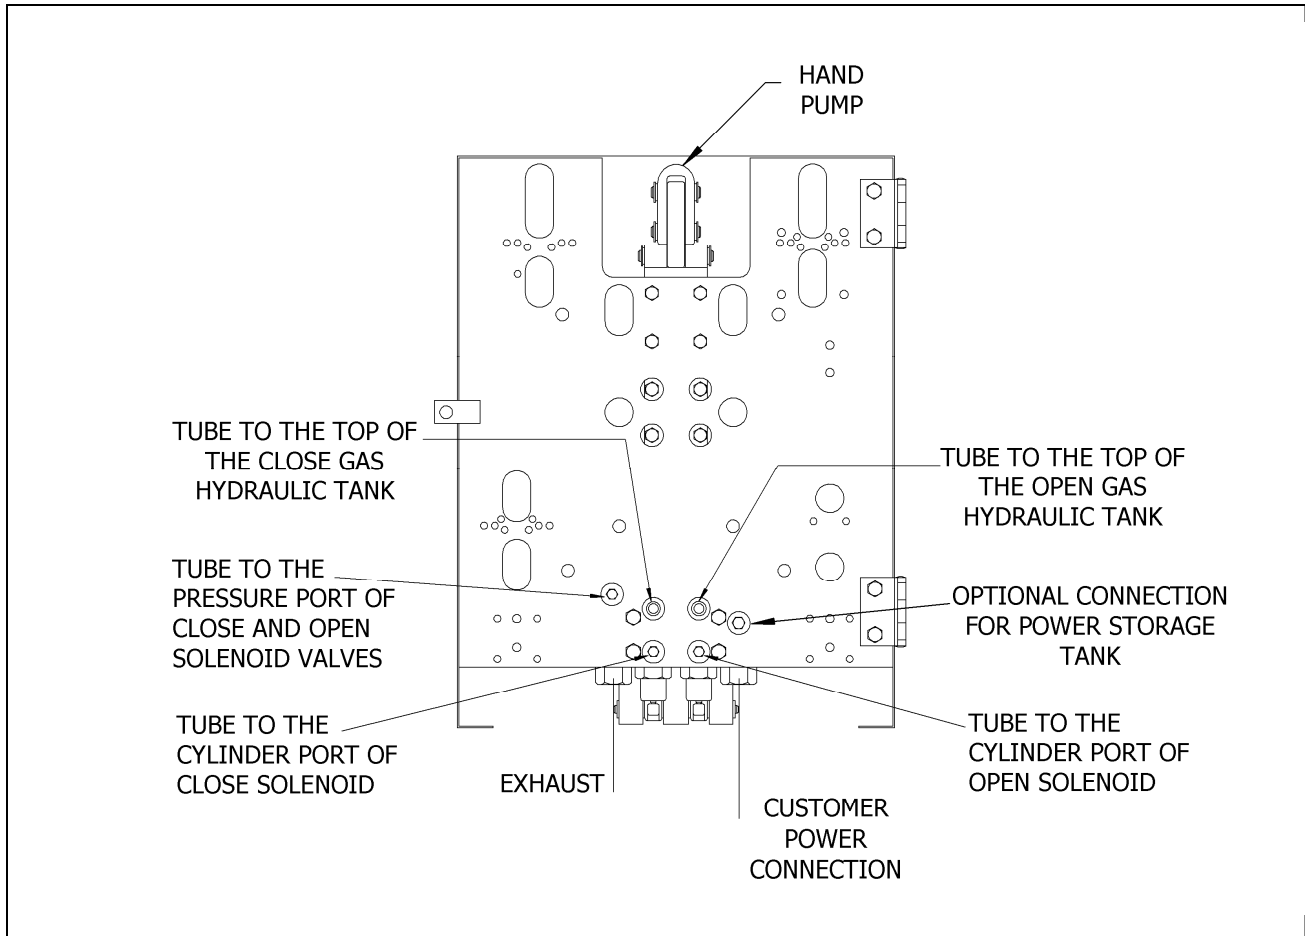
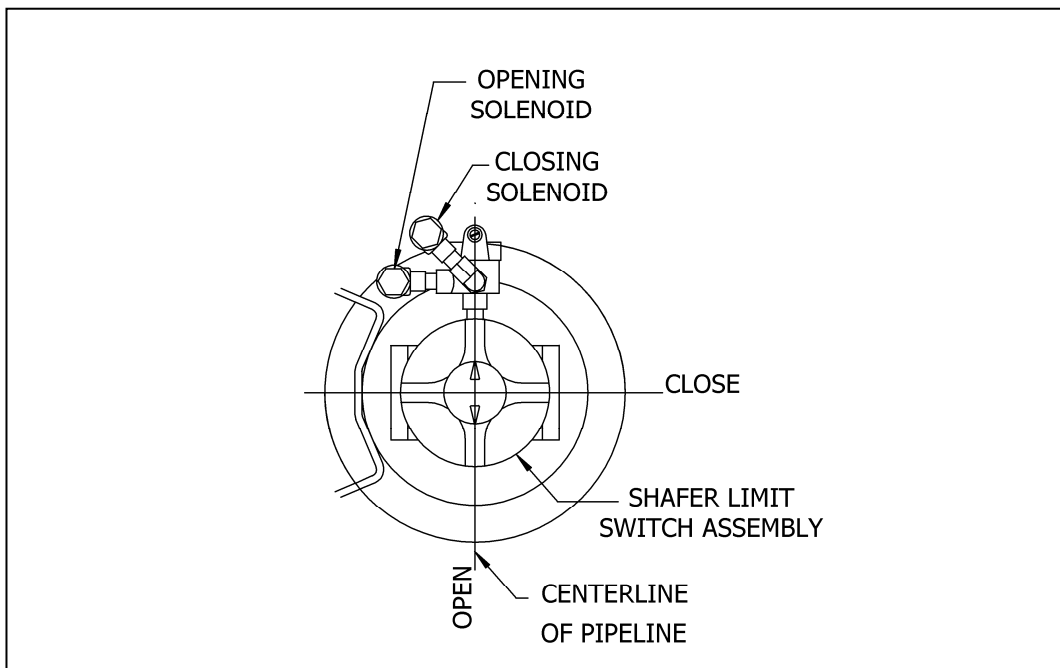

Figure 8: View of the Control from the Back
Figure 9: Top View of Limit Switch Assembly and Solenoid Valves
21. Run tubing from the CLOSE cylinder port of the poppet block control valve to the port in the diffuser assembly on top of the closing gas hydraulic tank. (See Figure 8)
NOTE: When facing the **BACK** of the control box the CLOSE cylinder port is on the left and the OPEN is on the right. (See Figure 8)
23. If an optional power storage tank is in use, find the optional connection for the power storage tank to the right of the OPEN cylinder port of the poppet block control valve, when facing the back of the control. (See Figure 8) Run tubing from this port to the port in the top of the power storage tank as originally plumbed.
24. Run tubing from the pilot pressure port to the pressure port of both Solenoid Valves. (See Figure 8).
25. Run tubing from the CLOSE PILOT port of the poppet block control valve to the Cylinder port of the CLOSE Solenoid. (See Figure 8 and Figure 9)
26. Run tubing from the OPEN PILOT port of the poppet block control valve to the Cylinder port of the OPEN Solenoid. (See Figure 8 and Figure 9)
27. Replumb the customer power connection and replumb the exhaust, or install muffler, on the poppet block control valve. (See Figure 8)